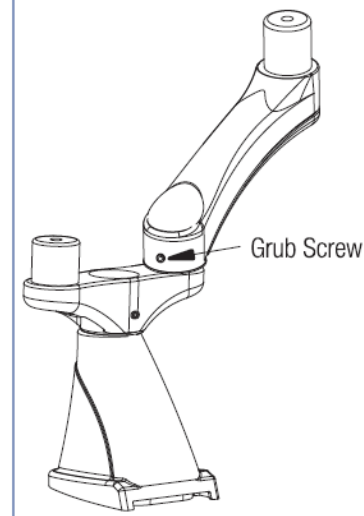

Fig. 3a
- Fix the Diagonal Arm onto the Double Arm Base with Cap & M6 screw as shown in Fig. 3. & tighten the grub screw as shown in Fig 3a.
- Fix the Extended Arm onto the Double Arm Base with Cap & M6 screw as shown in Fig. 3. & tighten the grub screw as shown in Fig 3a.